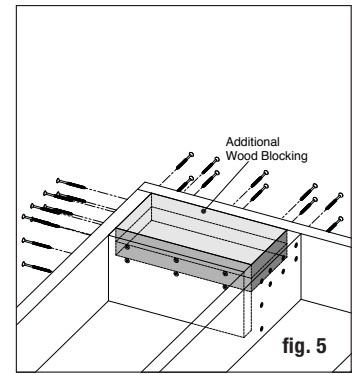

fig. 5
**Step 2 Installing Posts:** Install posts by attaching the aluminum base to the surface of the deck. Position the post so the fastener will go into the floor joist, and make sure the decking is firmly attached to the joist at the location of the posts. Proper structural blocking/ framing under the decking material is required when attaching the post to a wood frame deck because decking alone is not approved as structural framing (fig. 5).